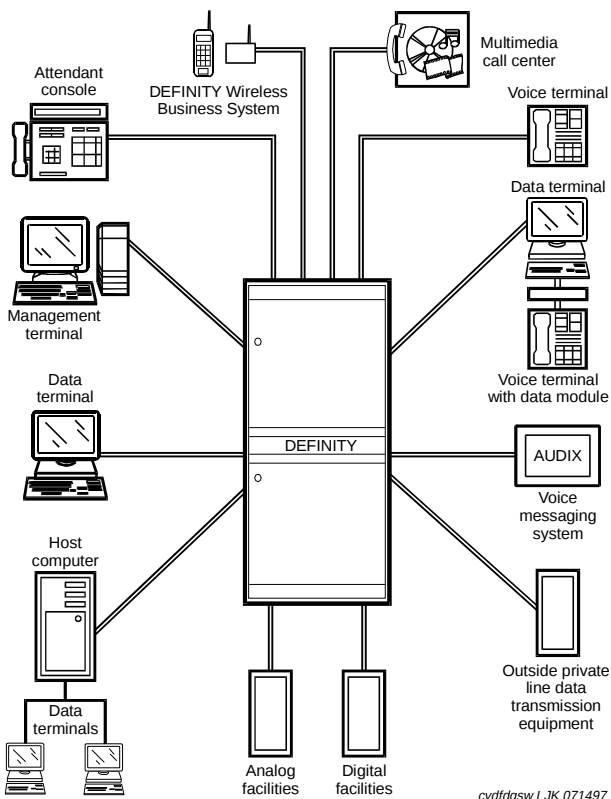

Figure 1. The System as a Digital Switch
The DEFINITY ECS is a digital switch that processes and routes voice communications (telephone calls) and data communications from 1 endpoint to another. See Figure 1.
The basic system component is the port network (PN), consisting of port circuits connected to internal buses that allow the circuits to communicate with each other. See Figure 1.